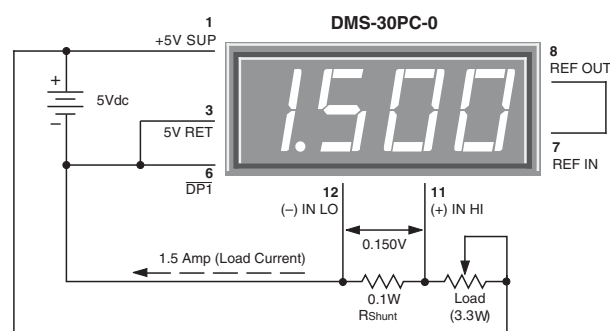

Figure 9. Basic DC Ammeter Circuit
**7. Digital Ammeter:** Digital ammeters are finding ever-increasing usage because analog-style ammeters (moving-vane types) now cost roughly the same as their digital counterparts. Additionally, analog ammeters are not nearly as rugged as modern digital panel voltmeters. Figure 9 illustrates a typical ammeter application. The circuit uses a  $\pm 200$ mV input meter